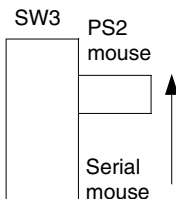

FIG. 16 Switch setting for use of a PS2 mouse
- For use a PS2 mouse, slide the SW3 switch to the "PS2 mouse" position as shown in FIG. 16: